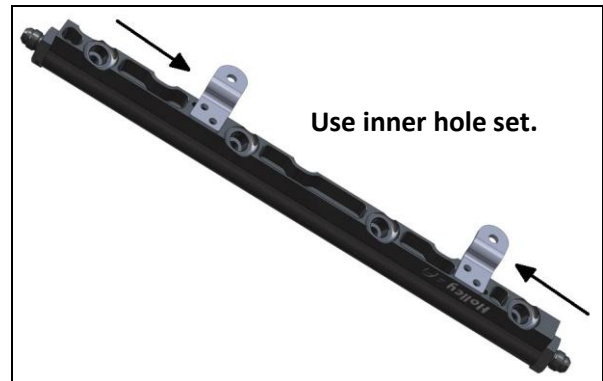

Figure 4b - Bracket placement
- Use brackets 49R3143 for LS1 & LS6 applications (**Figure 4b** bracket placement)